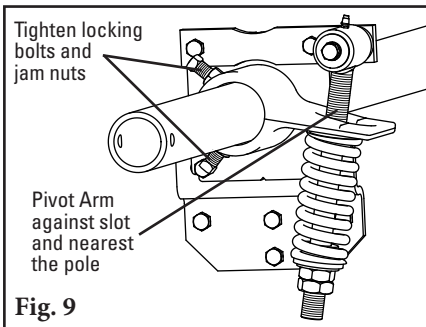

Fig. 9
14. **Tension the blades to the belt.** Rotate the blades until they contact the belt. While holding the spring bushing flat on the torque arm, rotate the torque arm until the pivot arm is against the end of the slot nearest the pole. Tighten the locking bolts and jam nuts on the torque arm (Fig. 9). **NOTE:** The torque arm should be up against the mounting plate.